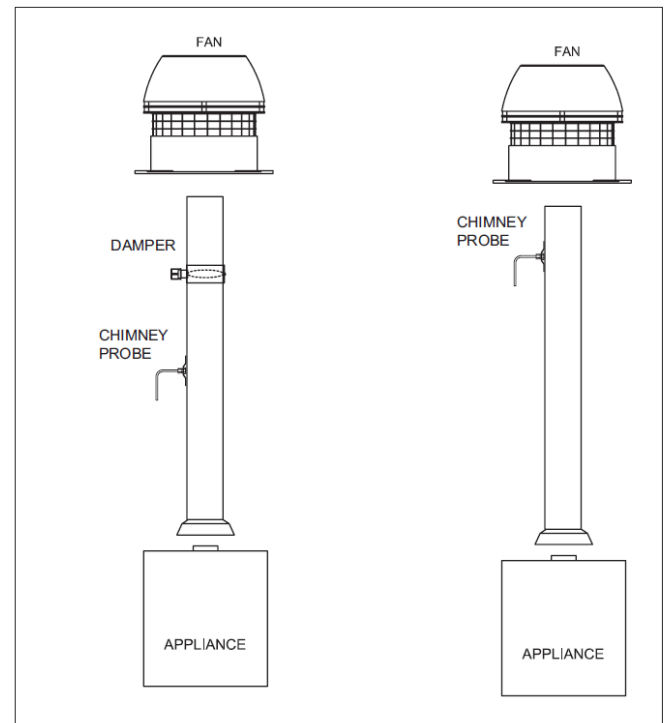

FIGURE 45
6. For fireplace installations, the probe should be installed close to the fan inlet. **See Figure 45.**